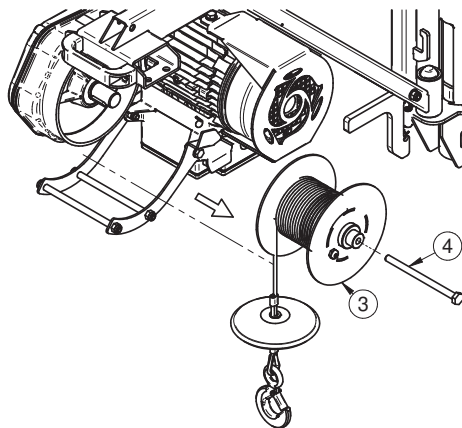

Fig. 4.2
2) Pull out the drum (Ref.3 Fig 4.2); if it is stuck, use a 5739 M16x150 screw (Ref.4 Fig.4.2) as a puller to be screwed onto the threaded pin (screw not supplied).